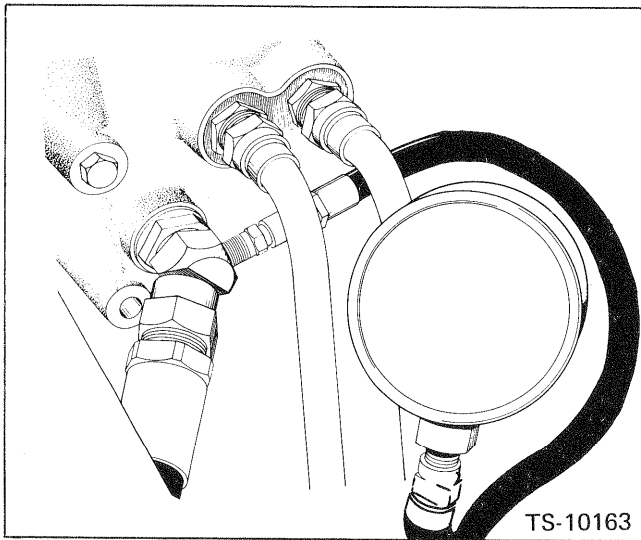

Fig. 10-5 Main Relief Valve Pressure Check
**NOTE:** For checking the oil cooler IN pressure refer to the procedure for checking the converter OUT pressure, as these two pressure readings are the same. See Fig. 10-5 for the position of the check point.
1. Install a tachometer on the engine. Install gauges at the converter OUT pressure check point, (this reading is the same as the oil cooler IN pressure, see NOTE above) and at the oil cooler OUT pressure check point located at the rear of the transmission on top of the brake housing. Fig. 10-5
3. Attach a hydraulic gauge of at least 3,000 p.s.i. capacity to the hose fitting on the main control valve. Fig. 10-5